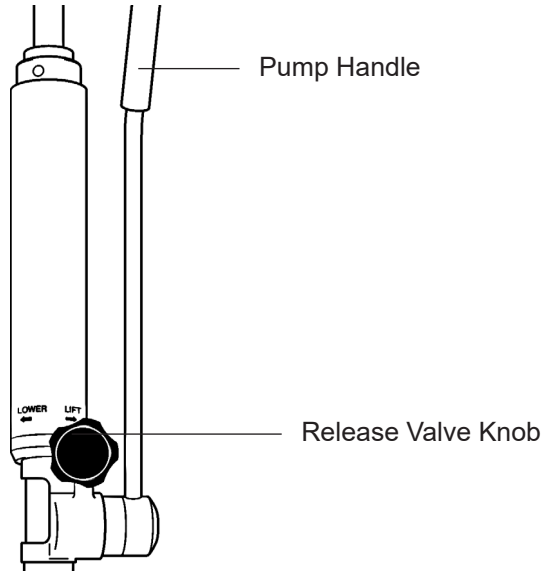

Fig. 6
6. Close the hydraulic unit release valve (Fig. 6) by turning the knurled black knob on the unit fully clockwise.